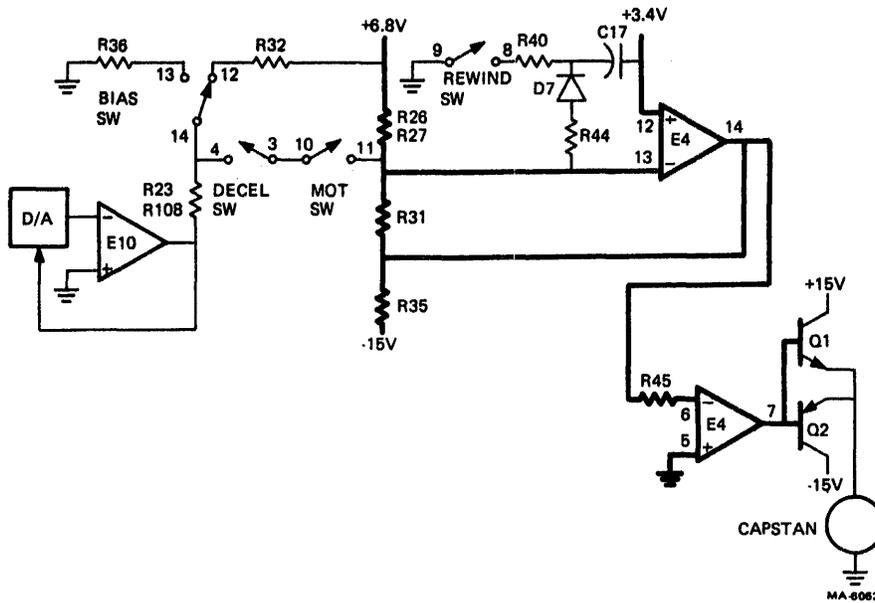

Figure 6-16 Idle - Capstan Drive
6.5.3.3 Capstan Drive (Figure 6-12) – Switches labeled E3 and E5 are electronically controlled and are shown deactivated (the control input is low). Some of these same switches appear in simplified schematics (Figures 6-16 and 6-17) and have functional names in those figures. The simplified schematics are referenced in the following descriptions of idle, forward, reverse, and rewind operation. Figure 6-20 shows a comparison of how circuit parameters vary between these operations, without attempting to list actual parameter values.
6.5.3.3.1 Idle (Figure 6-16) – The reference input to amplifier E4 (pin 12) is tied to +3.4 V. The circuit attempts, through feedback, to maintain the inverting input (pin 13) at the same level as the reference input.